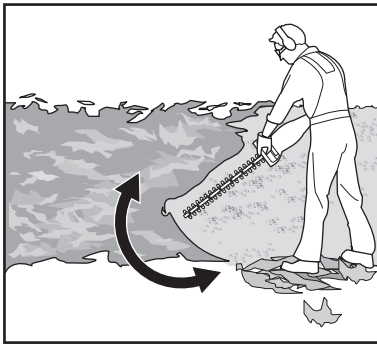

Fig. 6
3. Always hold the product firmly with both hands on front handle (3) and the rear handle (7). Never operate this machine using only one hand.
5. First cutting both sides from the bottom upwards to the top. This will prevent any of the cuttings falling into the path of the area still to be cut (Fig. 6).